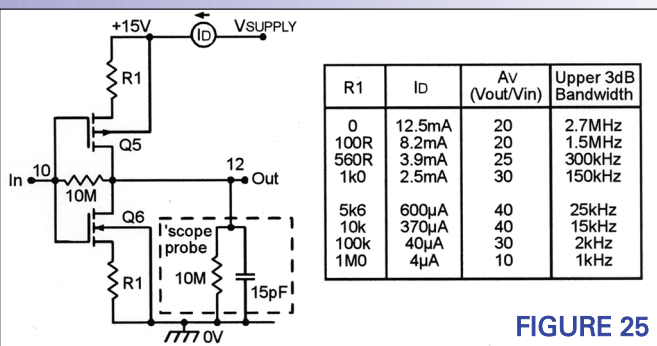
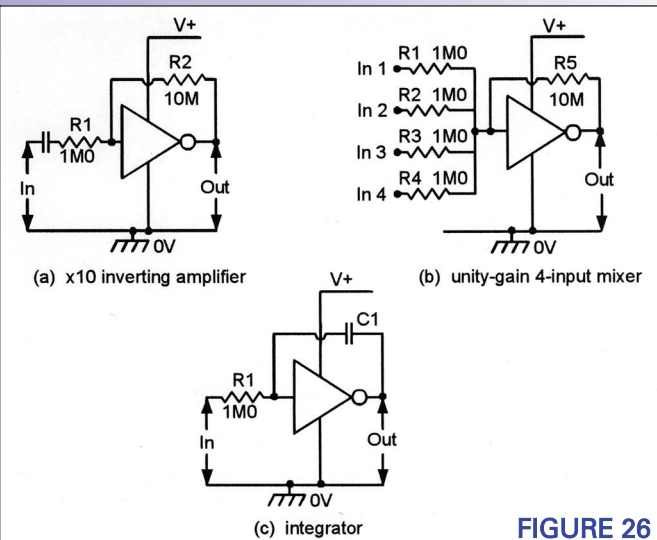
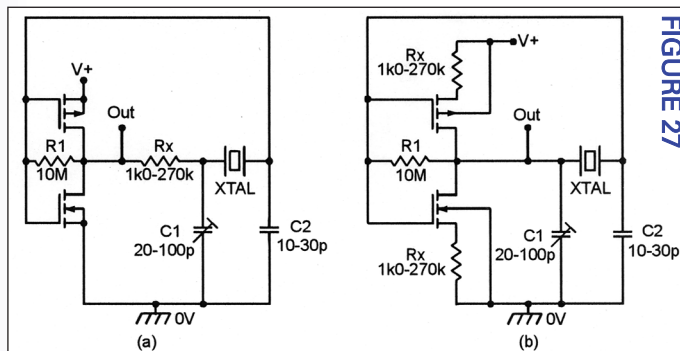

FIGURE 25
FIGURE 26
FIGURE 27
In many applications, the quiescent supply current of the 4007UB CMOS linear amplifier can be usefully reduced — at the expense of reduced amplifier bandwidth — by wiring external resistors in series with the source terminals of the two MOSFETs of the CMOS stage, as shown in the 'micropower' circuit of Figure 25. This diagram also shows the effect that different resistor values have on the drain current, voltage gain, and bandwidth of the amplifier when it is operated from a 15 volt
It is important to appreciate in the Figure 25 circuit that these additional resistors add to the output impedance of the amplifier (the output impedance roughly equals the $R1-A_v$ product), and this impedance and the external load resistance/capacitance has a great effect on the overall gain and bandwidth of the circuit. When using 10K values for $R1$, for example, if the load capacitance is increased to 50pF the bandwidth falls to about 4kHz, but if the capacitance is reduced to 5pF the bandwidth rises to 45kHz. Similarly, if the resistive load is reduced from 10M to 10K, the voltage gain falls to unity. Thus, for significant gain, the load resistance must be large relative to the output impedance of the amplifier.
The basic (unbiased) CMOS inverter stage has an input capacitance of about 5pF and an input resistance of near-infinity. Thus, if the output of the Figure 25 circuit is fed directly to such a load, it will show a voltage gain of about x30 and a bandwidth of 3kHz when $R1$ has a value of 1.0M; it will even give useful gain and bandwidth when $R1$ has a value of 10M, but will consume a quiescent current of only 0.4μA! The CMOS linear amplifier can be used, in either its standard or micropower forms, to make a variety of fixed-gain amplifiers, mixers, integrators, active filters and oscillators, etc. Three typical basic applications are shown in Figure 26. One attractive 4007UB linear application is as a crystal oscillator, as shown in Figure 27(a). Here, the CMOS amplifier is linearly biased via $R1$ and provides 180° phase shift, and the $Rx-C1-XTAL-C2$ pi-type crystal network gives an additional 180° of phase shift at the crystal resonant frequency, thereby causing the circuit to oscillate. If this
circuit is needed to provide a frequency accuracy within only 0.1% or so, Rx can be replaced by a short and $C1-C2$ can be omitted; for ultra-high accuracy, the correct values of $Rx-C1-C2$ must be individually determined (Figure 27 shows the typical range of values). In micropower applications, Rx can be incorporated in the CMOS amplifier, as shown in Figure 27(b). If desired, the output of the crystal oscillator can be fed directly to the input of an additional CMOS inverter stage, for improved waveform shape/amplitude.
■ FIGURE 25: 'MICROPOWER' 4007UB CMOS LINEAR AMPLIFIER, SHOWING METHOD OF REDUCING ID, WITH MEASURED PERFORMANCE DETAILS.
■ FIGURE 26: THE CMOS AMPLIFIER CAN BE USED IN A VARIETY OF LINEAR INVERTING AMPLIFIER APPLICATIONS. THREE TYPICAL EXAMPLES ARE SHOWN HERE.
■ FIGURE 27: CRYSTAL OSCILLATOR USING (A) STANDARD AND (B) MICROPOWER 4007UB CMOS LINEAR INVERTER.